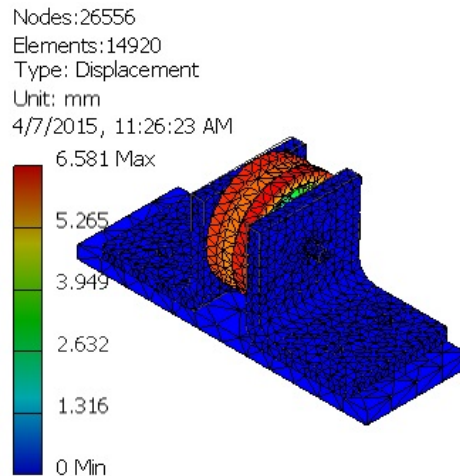

Figure 18-77 The mode shape of the first natural frequency
2. Choose the **Run** button in the **Simulate** dialog box; the solving procedure starts and the first natural frequency model shape contour is displayed in the drawing area, as shown in Figure 18-77.